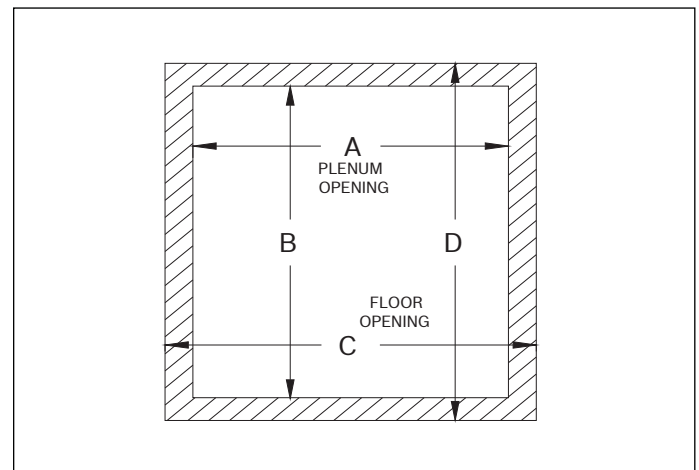

Figure 6 Floor and plenum opening dimensions
2. Construct hole in floor per Table 2 and Fig. 6.
3. Construct plenum to dimensions specified in Table 2 and Fig. 6.
* As seen in Fig. 6